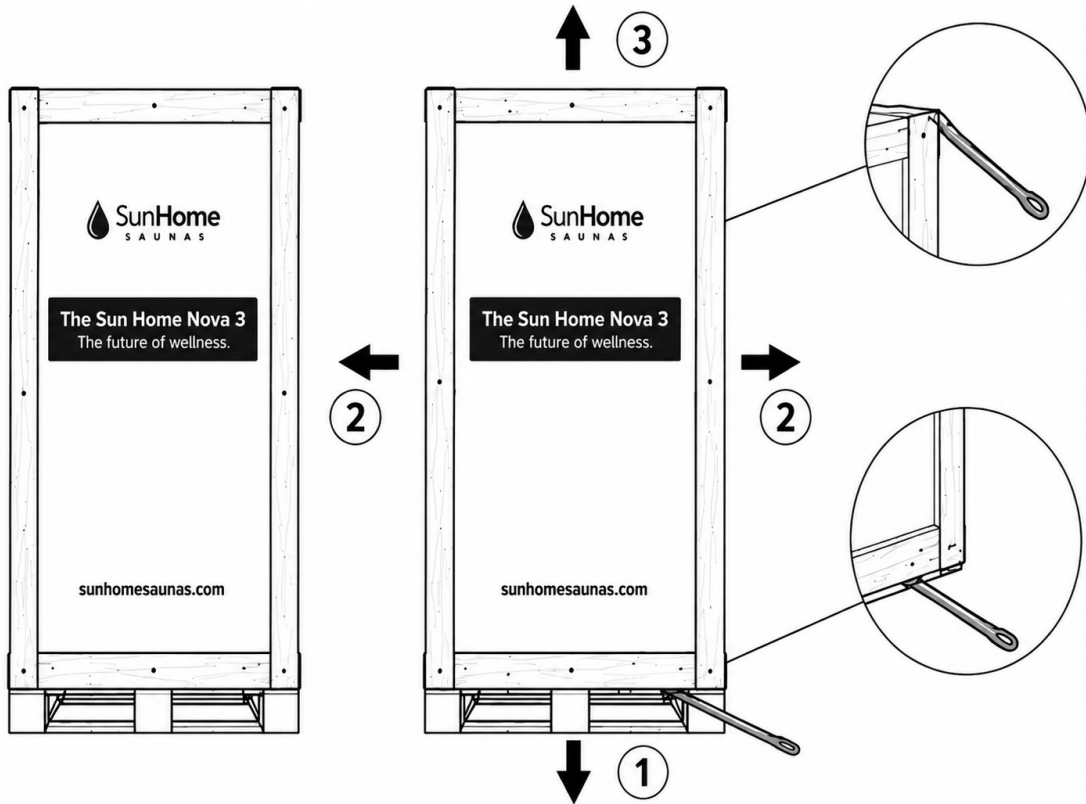

Figure 4. Uncrating: pry the crate front open at the bottom first, then the sides, then the top.
- Using the crowbar and hammer, pry the crate front open: bottom first, then sides, then top (Figure 4).